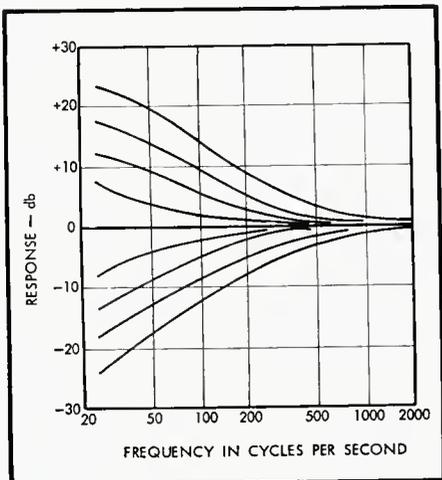
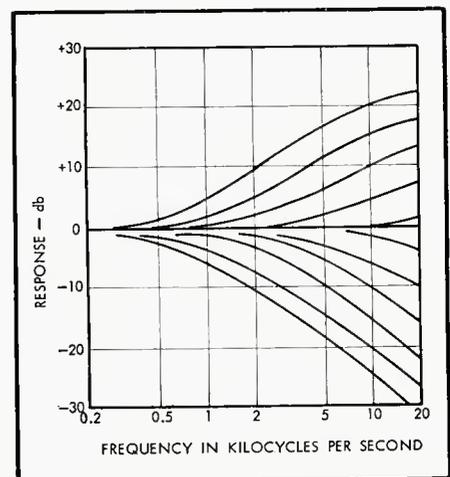
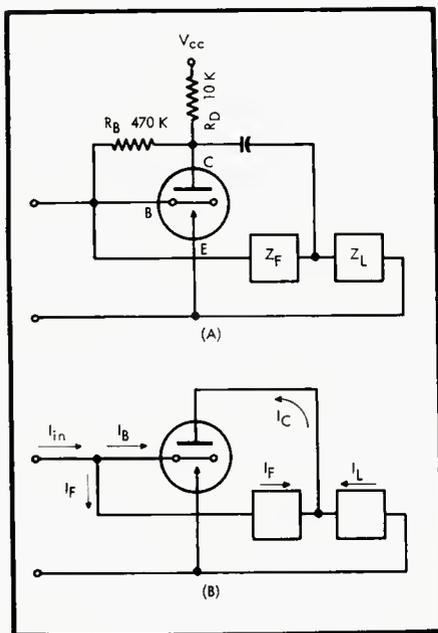

Fig. 3. Measured response of circuit of Fig. 2 for various bass-control settings.
Fig. 4. Measured response of circuit of Fig. 2 for various treble-control settings.
Fig. 5. Transistor feedback circuit for obtaining stabilized current gain approximately equal to Z_F/Z_L .
range of bass and treble control, is shown in Fig. 2. The second stage is the tone control, while the first and third stages provide amplification as well as suitable source and load impedances for both the tone control and externally connected circuits. The transmission characteristics of the entire circuit for various settings of the bass control are shown in Fig. 3, and similar curves for the treble control are shown in Fig. 4. The bass and treble characteristics are completely independent. The total response for any condition of the bass and treble controls thus may be obtained by adding the curves of Figs. 3 and 4.
The manner in which the circuit of Fig. 2 achieves the results shown in Figs. 3 and 4 will now be described. At (A) in Fig. 5, a transistor feedback circuit is shown in which d.c. collector
current is supplied by the resistor R_D , and d.c. stabilized base bias current is supplied through the resistor R_B . If Z_F is low in impedance compared with R_B with which it is in parallel, and Z_L is small compared with R_D , with which it is in parallel for audio signals, we may approximate (A) of Fig. 5 with the circuit of (B). A signal current flowing into the base of the transistor will be amplified and a much larger current will flow into the collector of the transistor. This current will divide at the junction of Z_F and Z_L . The manner in which this current divides depends upon the fact that the signal voltage at the base is negligibly small, so that the ends of Z_L and Z_F remote from the collector are essentially at ground potential. Thus the voltages across Z_F and Z_L are equal and the currents are in inverse ratio of the resistances; in other words, if I_L is the load current and I_F is the feedback current, I_L/I_F is equal to Z_F/Z_L . If the gain from base to collector of the transistor is high (e.g., 50 times) the base current may be small relative to the feedback current. The input current, which is equal to the sum of the base current and the feedback current, is then essentially equal to the feedback current. Hence, the current gain, K_i , from input to load of the circuit of (B) is given approximately by I_L/I_F , and
If Z_F and Z_L of Fig. 5 are replaced by a pair of capacitors C_F and C_L (whose impedance varies inversely with frequency) the current gain will remain flat with frequency as long as the conditions of Eq. (1) hold, since the fre-
quency dependence of Z_F cancels that of Z_L . By proportioning the capacitors suitably, and designing the remaining circuit properly, Eq. (1) may be made to hold over the entire audio band. In particular, Z_L must not get too small relative to the input resistance of the amplifier stage following the tone control, since the high-frequency response will be about 3 db down at the frequency at which the capacitive reactance of Z_L is equal to the third-stage transistor input impedance. Furthermore, at low frequencies, the capacitive reactance of C_F will rise as the frequency is lowered until the low-frequency response is 3 db down at the frequency at which the capacitive reactance of C_F is equal to the total resistance in shunt with it. This total resistance is made up of the parallel combination of three components: First, the bias resistance shown at (A) in Fig. 5; second, the collector-to-base resistance of the transistor itself, which is of the order of two megohms; third (and most esoteric), the d.c. load resistor multiplied by the current gain of the transistor, which is of the order of one-half megohm if the transistor current gain is 50 times.